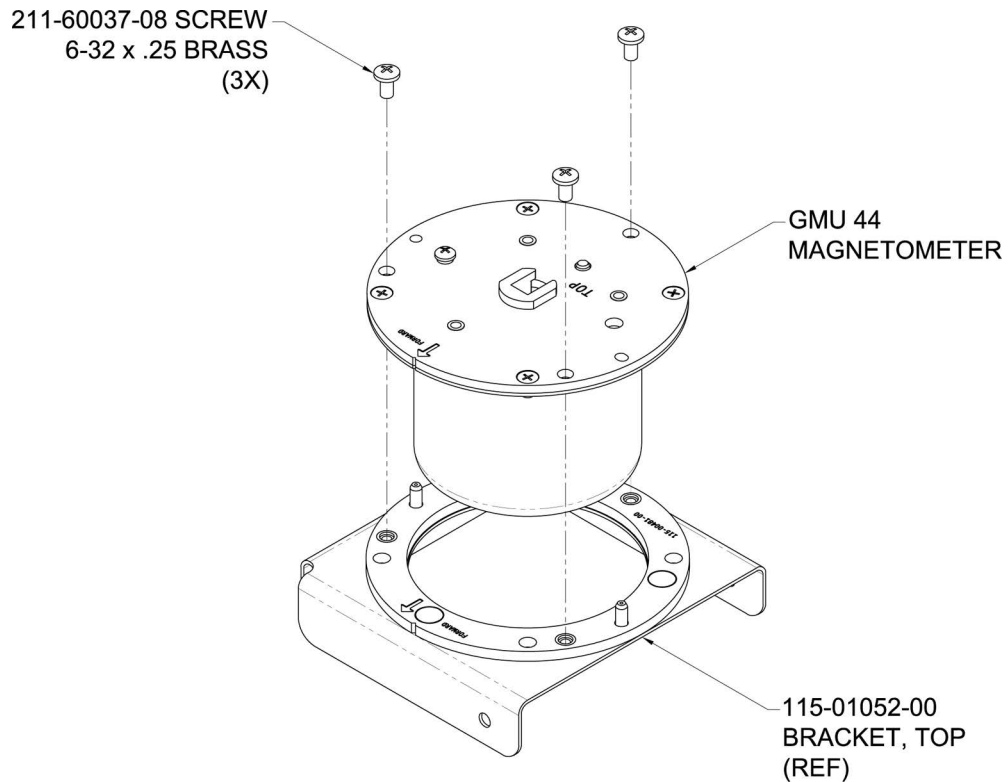

Figure B-5 Lancair IV/IV-P GMU 22 Mounting Bracket
2. Attach the GMU 22 to the Top Bracket Assembly (115-01052-00) using screws (211-60037-08) as shown in Figure B-5.